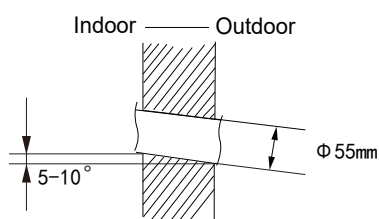

Fig.2
(2) Open a piping hole with the diameter of  $\Phi 55\text{mm}$  on the selected outlet pipe position. In order to drain smoothly, slant the piping hole on the wall slightly downward to the outdoor side with the gradient of  $5\sim 10^\circ$ . (As show in Fig.2)